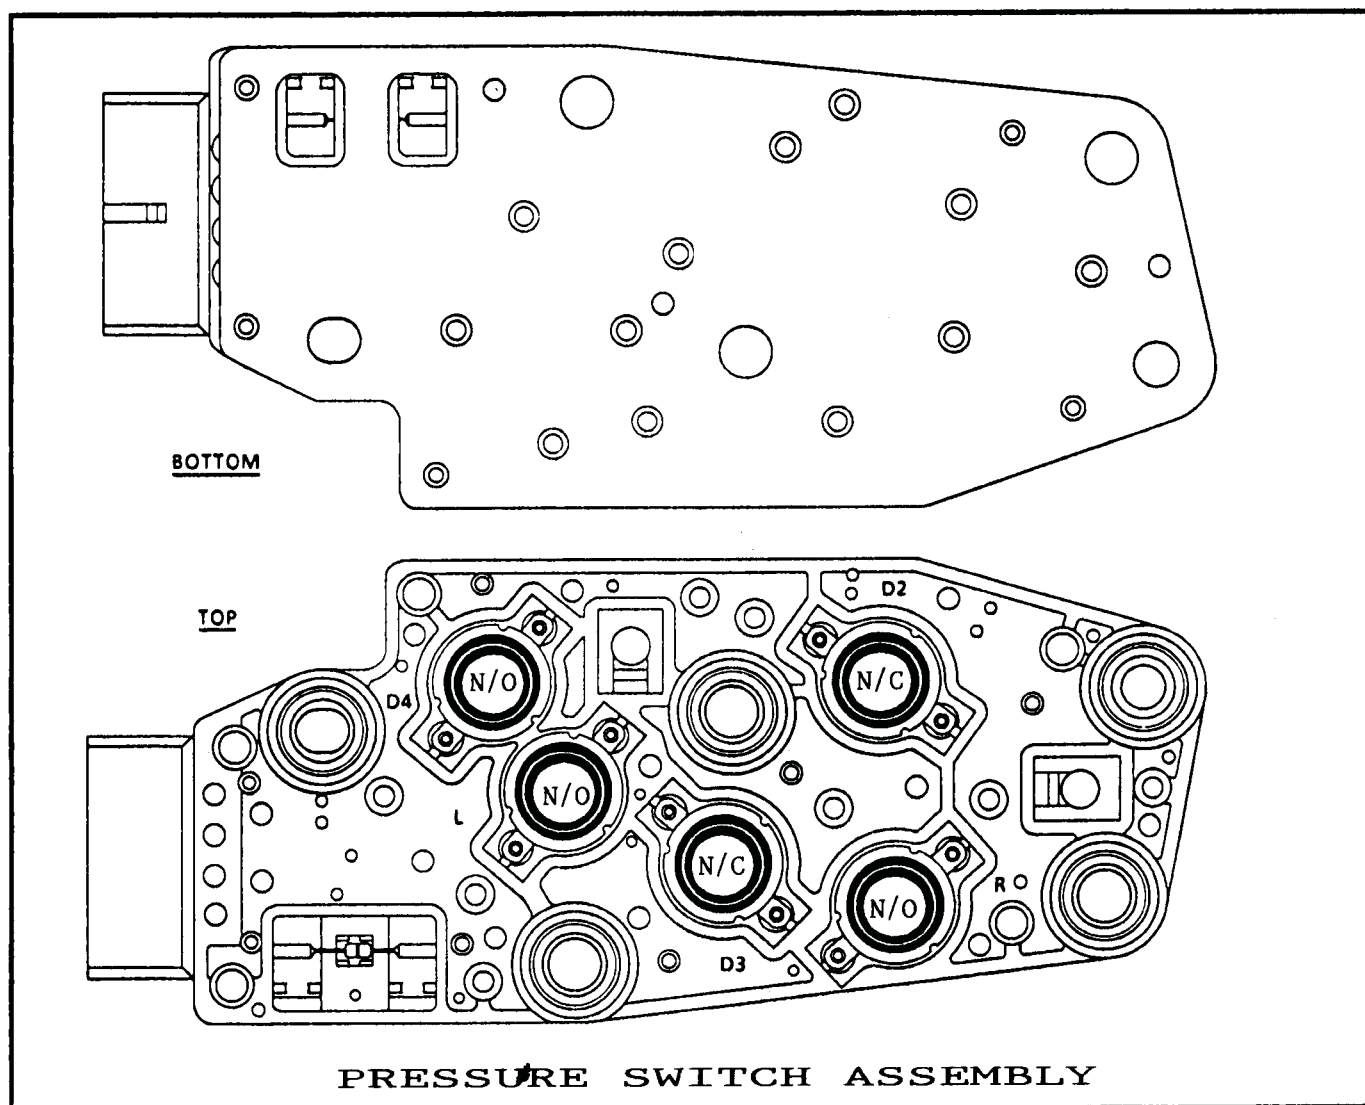

Figure 155
1. Two of the five switches in the pressure switch assembly are normally closed (N/C), and the other three are normally open (N/O), as shown in Figure 155.
3. Place the ohmmeter leads on the pins on each side of the D4 switch (N/O). No tone should be heard (Figure 155).
8. Refer to Figure 155.